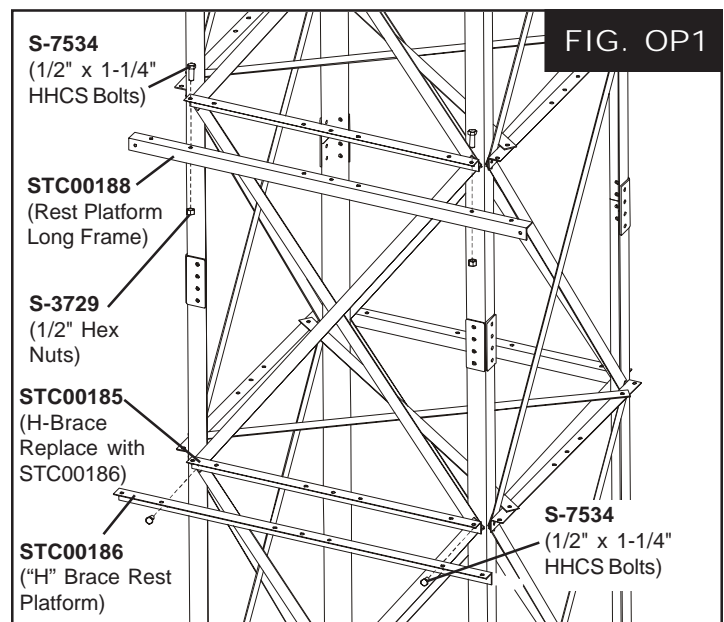

FIG. OP1
2. Attach the Rest Platform Long Frame (**STC00188**) to the H-Brace (**STC00185**). Then replace the H-Brace (**STC00185**) that is below the offset platform with the Rest Platform "H"-Brace (**STC00186**). Use (4) 1/2" x 1-1/4" bolts & nuts (See Fig. OP1)